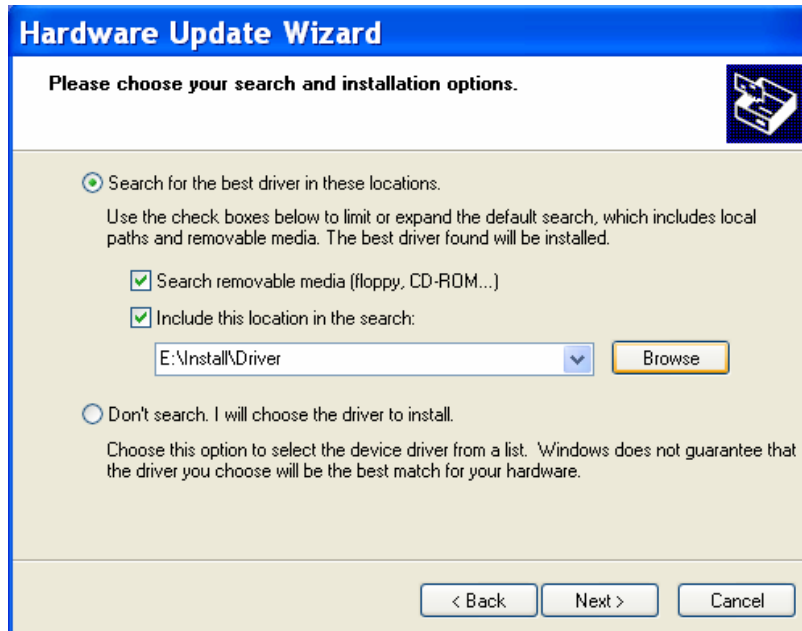

Fig.3-10 : The location of USB Device Driver
Step 5 : Click **【Next】**, the Hardware Update Wizard will search the device driver, the window will be shown as Fig.3-10. You must specify the location of USB device driver located.